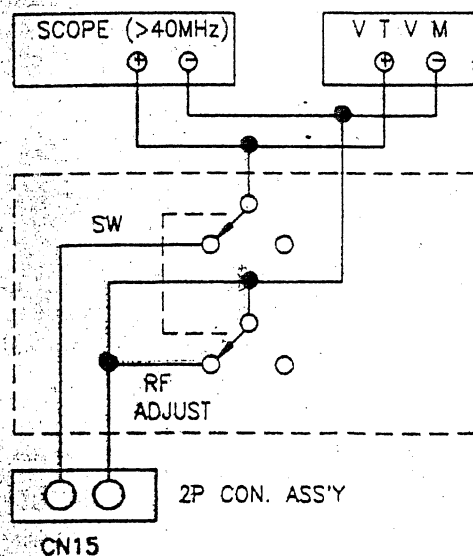

Figure 8
2. Connect RF test pin to CN15 and play a CD (See Fig. 8)